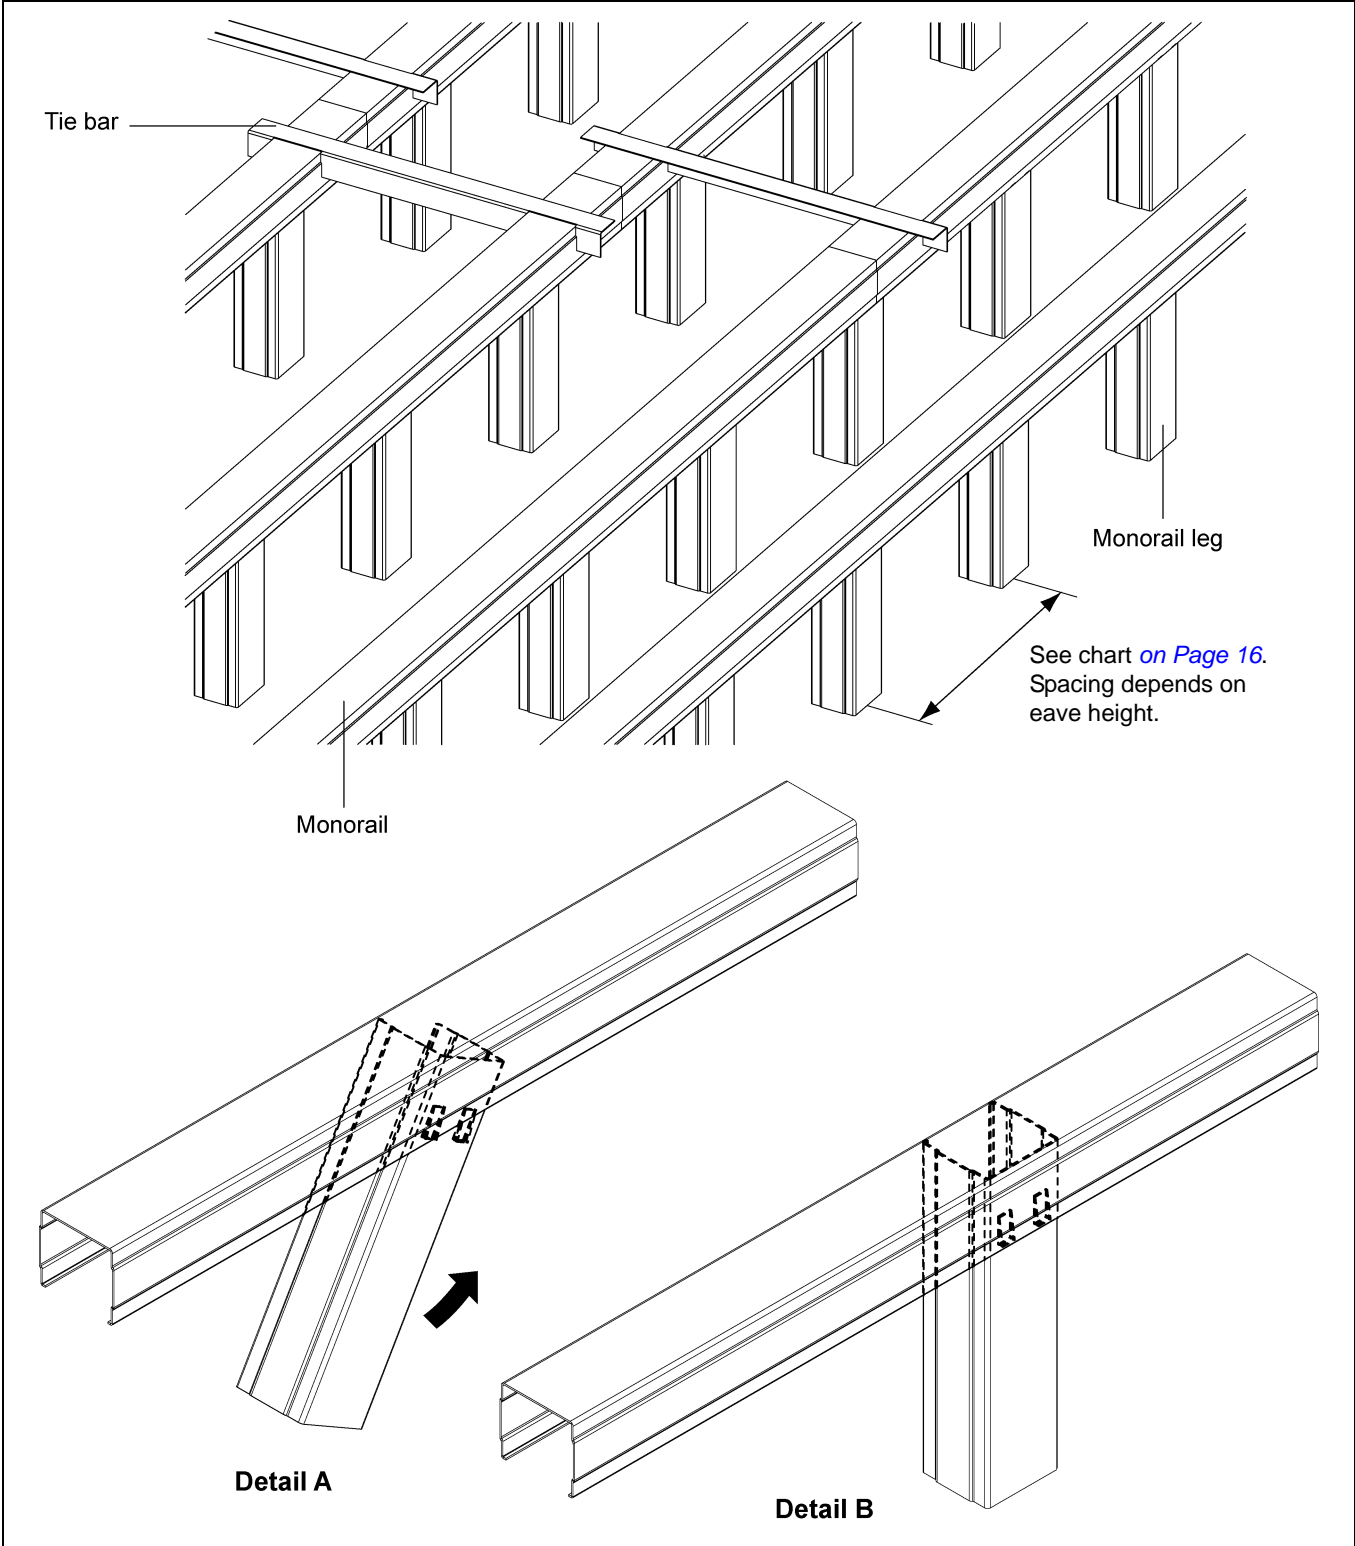

Figure 4E Assembly Leg Rail
- 1. Place two (2) corners of the monorail leg into the rails as shown.
- 3. The leg can then be pushed down into the rail until the tabs lock it into place. (See Figure 4E.)